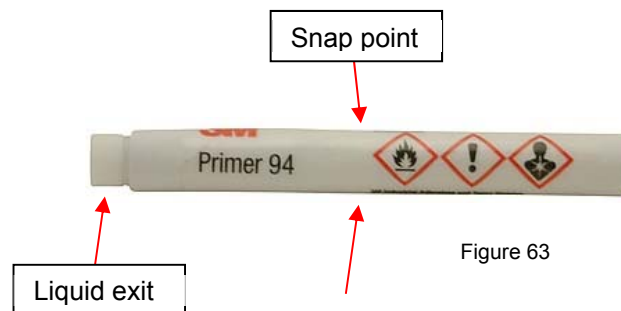
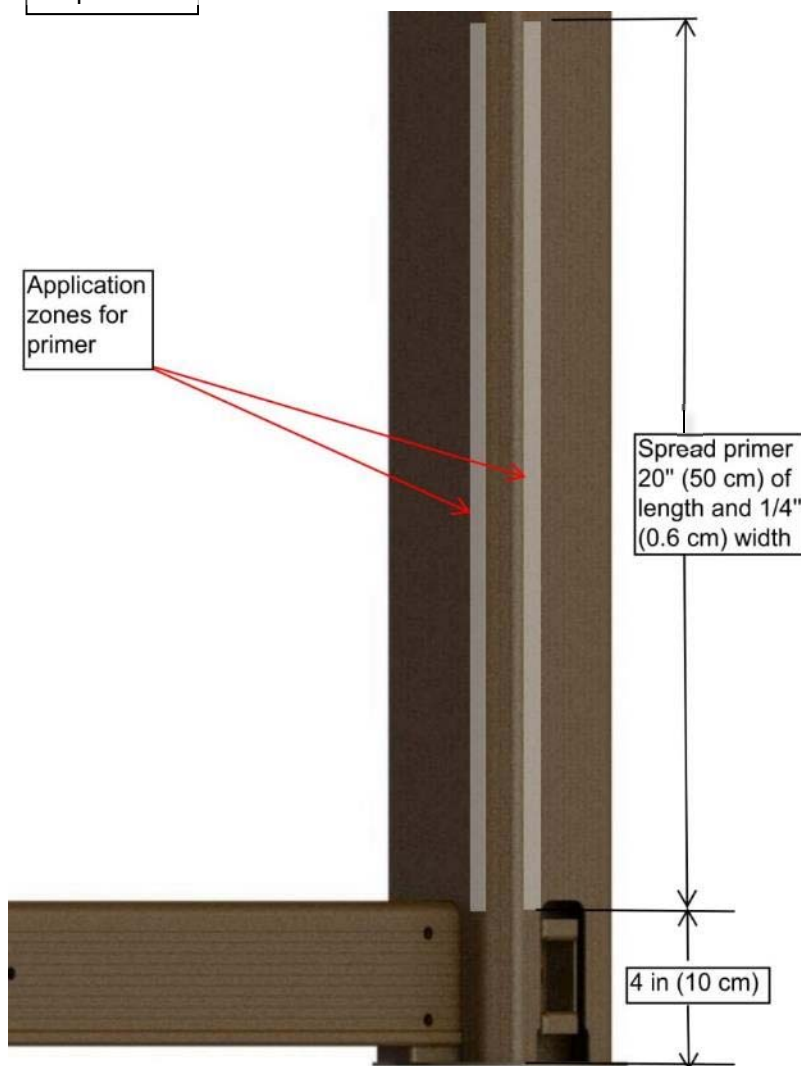
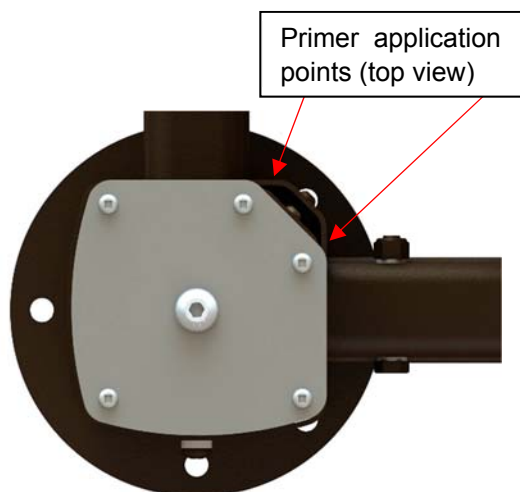

Figure 63
Figure 64
Figure 65
- 7) Clean the surface of the outer sleeve positioned on the opposite corner of the light button. Remove any dirt or contaminant and dry the surface (Figure 64).
- 8) Use the supplied alcohol swab and rub it on the surface of the outer sleeve positioned on the opposite corner of the light button to clean the surface. (Figure 64 and Figure 65). Wait two minutes for the alcohol to dry.
- 9) Apply the primer on the inside corner at the indicated areas. Refer to Figure 64 and Figure 65. The wire guard can also be held in place and taped off around its perimeter to mark off the application area. **Important:** Failure to apply the primer will result in the wire guard unsticking over a short period of time. The primer will act as the optimal bonding agent for the paint. To use the primer, snap the bottle in the middle for the liquid to come out. (Figure 63)